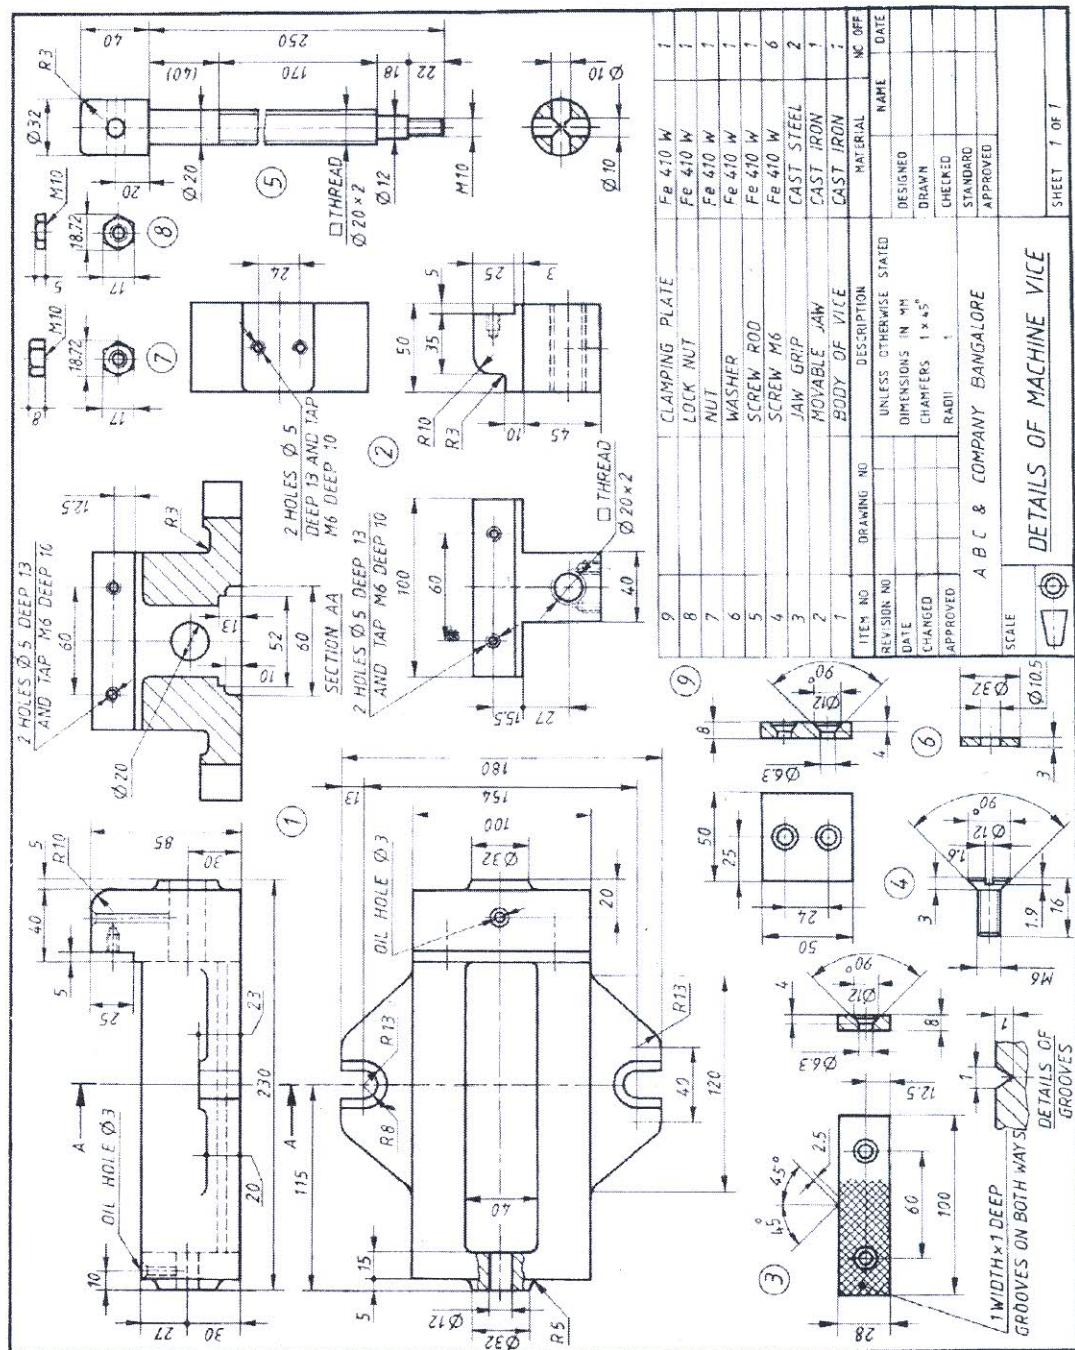

Figure 2: Details of Machine vice
**Q.No.5** Figure 2 shows the details of a Machine vice. Assemble the parts of the Machine vice and show the following views.